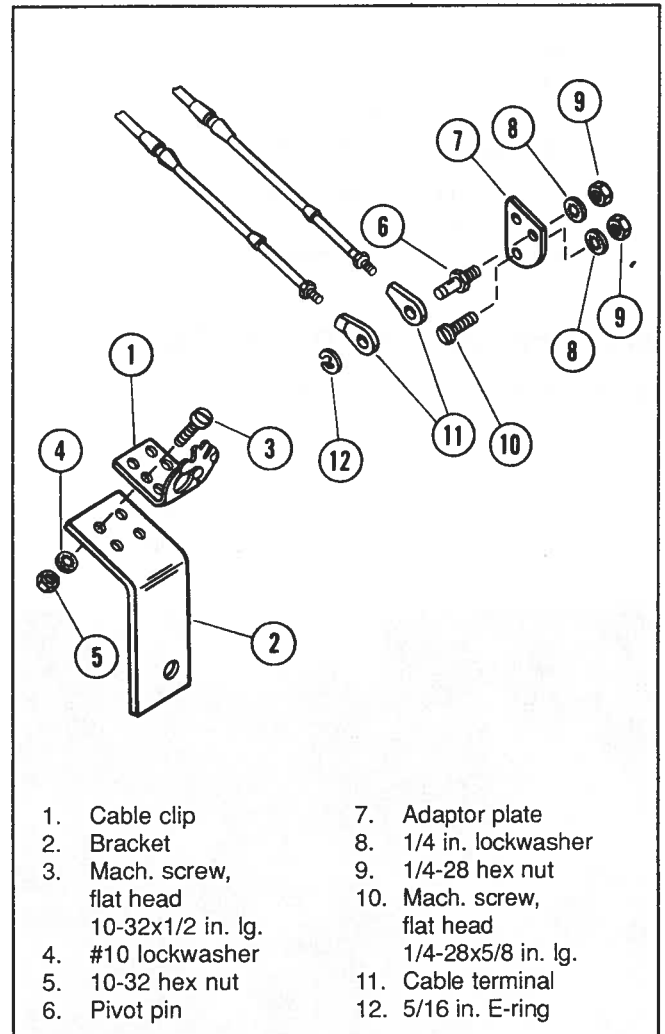

Figure 2-15. Dual-Station Shift Cable Assembly
2. Referring to Figure 2-15, attach the cable clip to the bracket using screws, lockwashers and nuts.